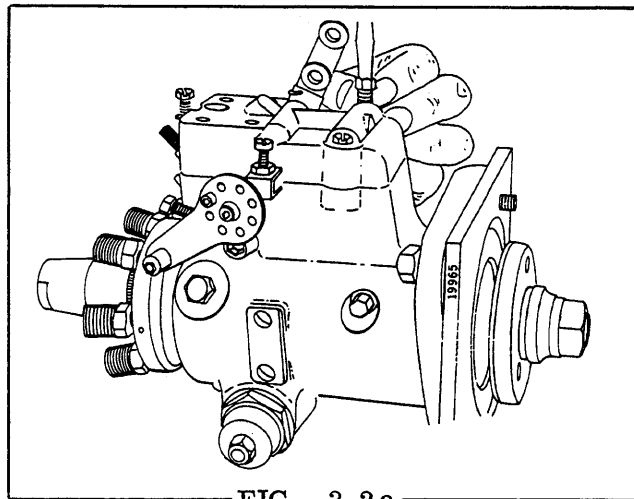
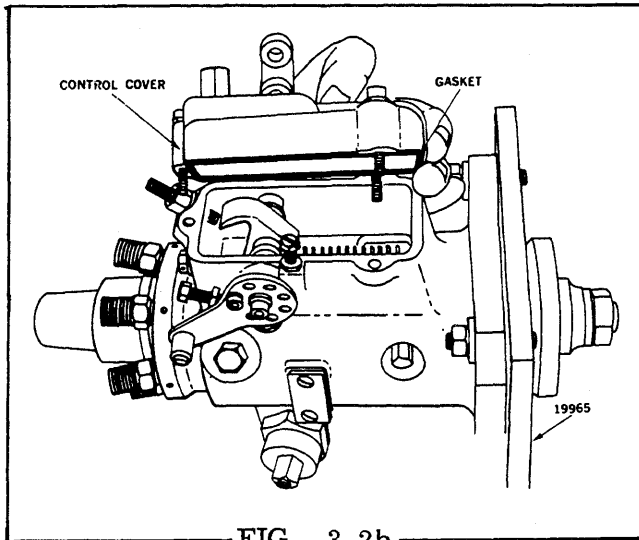

FIG. 3.2a
FIG. 3.2b
STEP 2 Mount the pump in holding Fixture No. 19965. Never clamp the pump in a vise, always use a fixture. Remove all lead plumb seal wires. Unscrew the three cover hold-down screws (Fig. 3.2a). Remove the governor control cover and cover gasket (Fig. 3.2b).